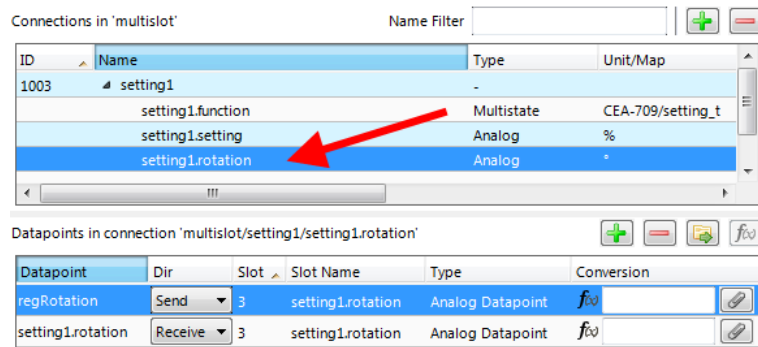

Figure 43: Add data point to connection slot.
6. Connect other data points to the slots by dropping them onto the slots. For example connect the register 'regRotation' by dropping it onto 'setting1.rotation' as depicted in Figure 43.